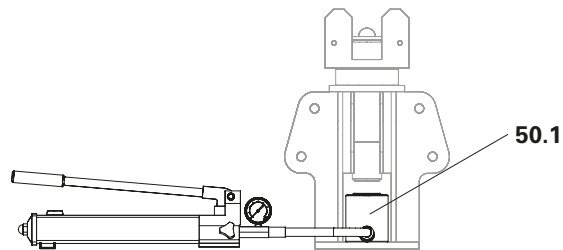

Fig. C2.01a
1. Insert hydraulic cylinder (50.1) into the head spindle (2.1). (Fig. C2.01a)